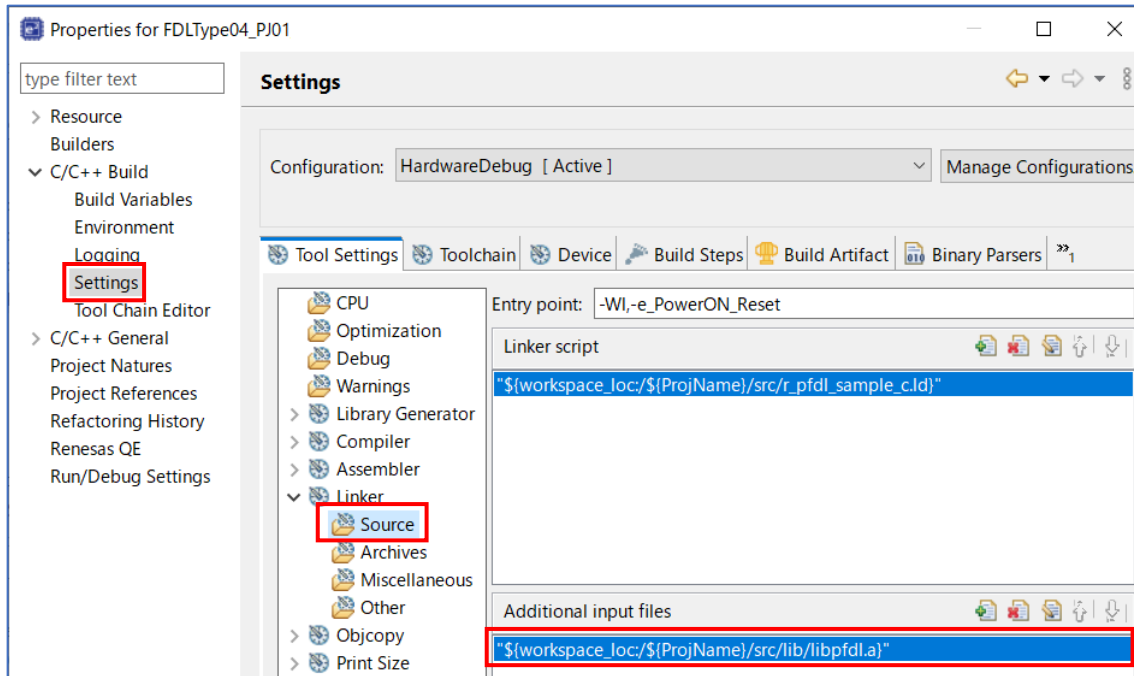

Figure 6-23. Specifying the Library File (LLVM)
- LLVM: Click the right mouse button for the project in a tree, and select "Properties". Register the file path of the data flash library file "libpfdl.a" in the "Additional input files" field on the screen displayed in "C/C++ Build" [Settings] – "Linker" [Source]. (Figure 6-23)